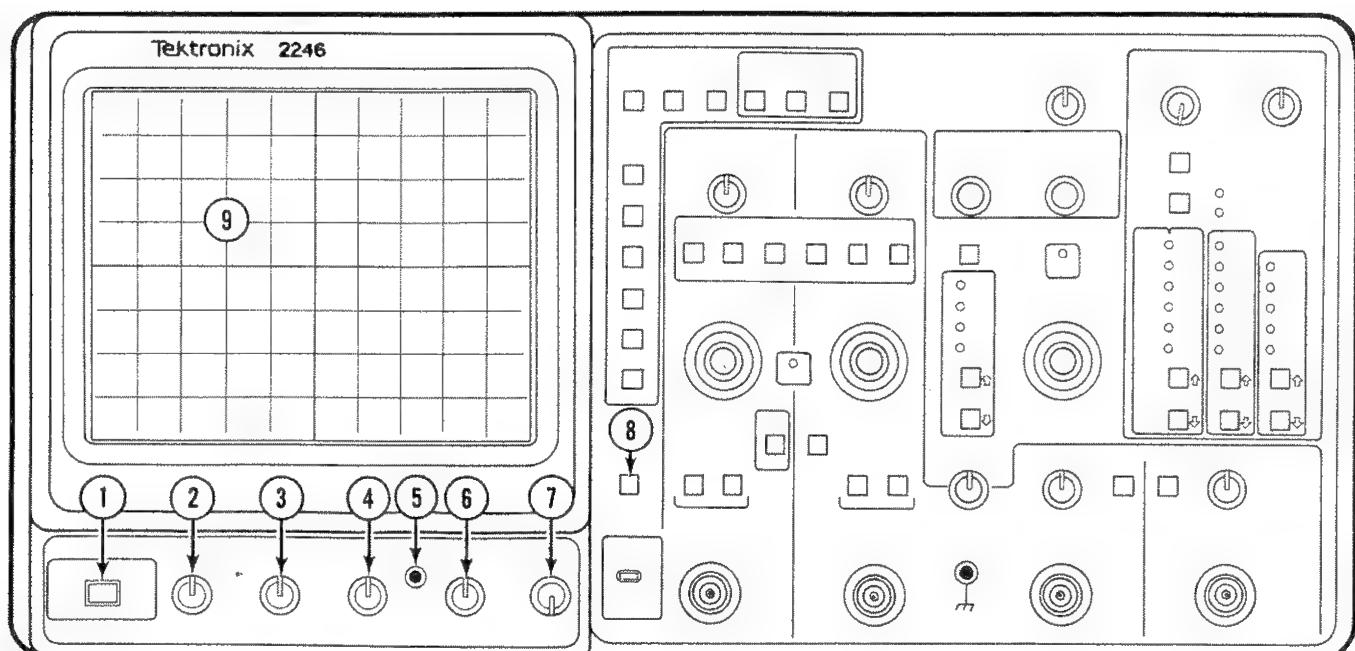

Figure 3-1. CRT, Power, and Display controls.
See Figure 3-1 for items 1 through 9.